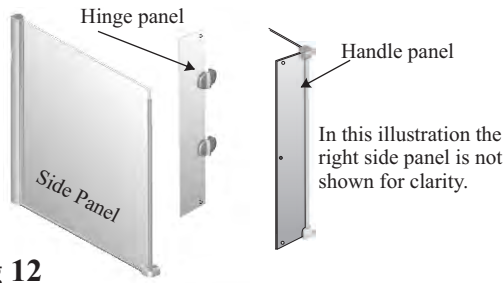

Fig 12
4.4 Determine whether your configuration has the hinges or the handle adjacent to the large left side panel (see Fig.12) insert either the hinge, or handle, narrow glass panel (depending on your configuration) into the corner seal and bottom corner bracket as described in 4.5 below and repeat for the remaining narrow glass panel on the right side corner. *TIP Wet the seal and glass edge with a water soaked cloth to make it easier to insert the glass fully.*